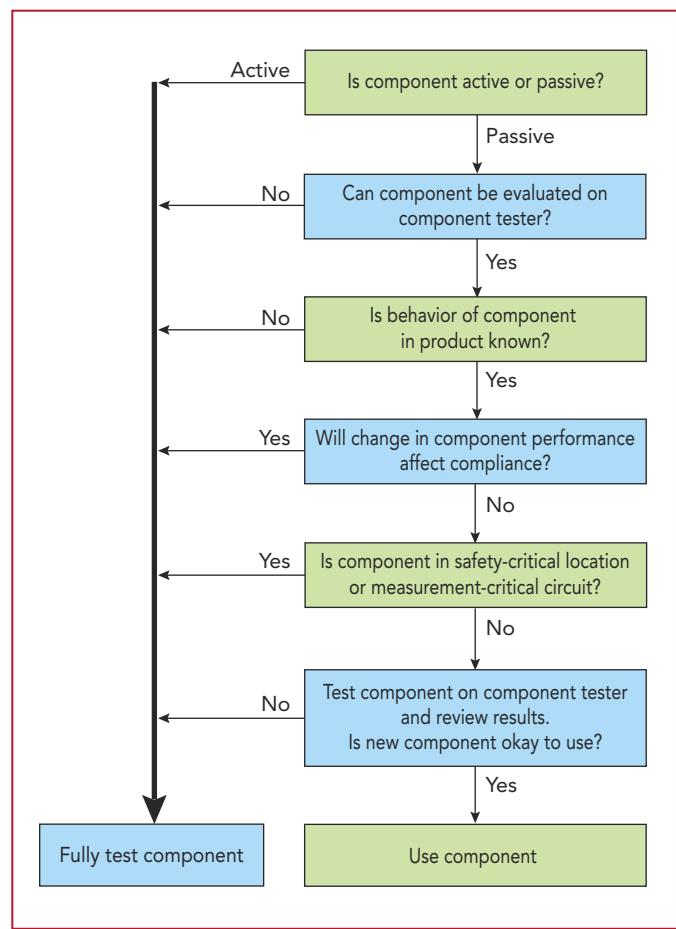

FIGURE 1. Using this evaluation procedure, we determine whether a component meets all review criteria for replacing an existing component.
Figure 1 shows our evaluation process. If we determine that a part needs evaluation, we test it on an Agilent Technologies 4395A network analyzer. We measure impedance magnitude ($|Z|$), capacitance (C), phase (θ), dissipation factor (D), inductance (L), and quality factor (Q) as functions of frequency.